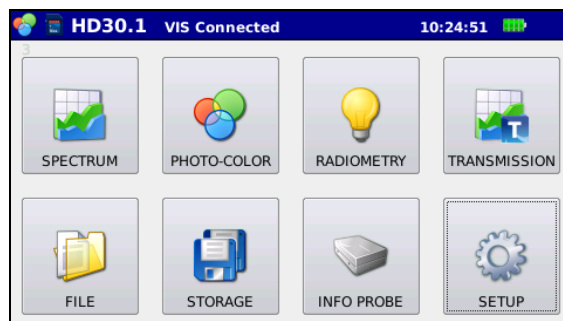

Figure 3.2: Start-up screen with HD30.S1 probe connected.
*Spectrum, photo-colour, radiometry and transmission for the HD30.S1 probe (figure 3.2),*